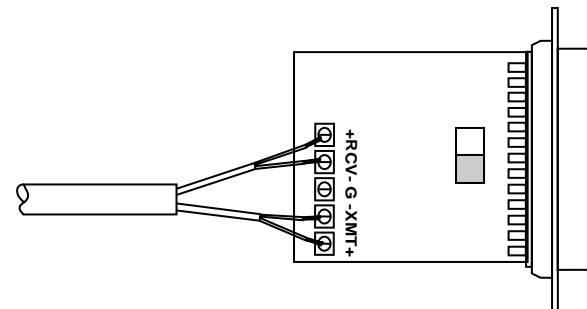

Figure 8: Proper Twisted Pair Connections to the Model 1009 Terminal Blocks
7. When you finish connecting the wires to the terminal block, the assembly should resemble the diagram in Figure 8, below: